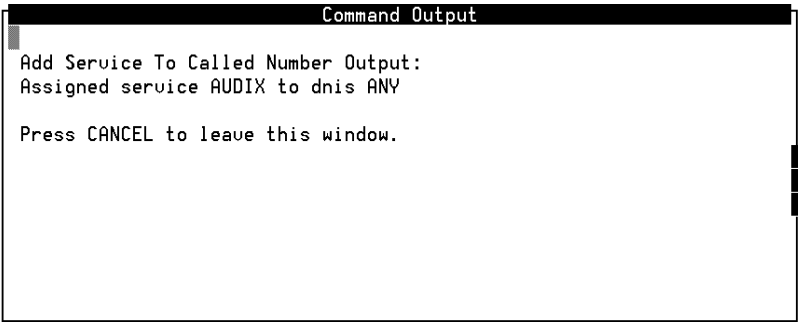

Figure 6-6. Command Output Window
The system displays the Command Output window (Figure 6-6).
- The system displays the Command Output window confirming your selection to add or remove a called number from the *DNIS_SVC group (Figure 6-6).